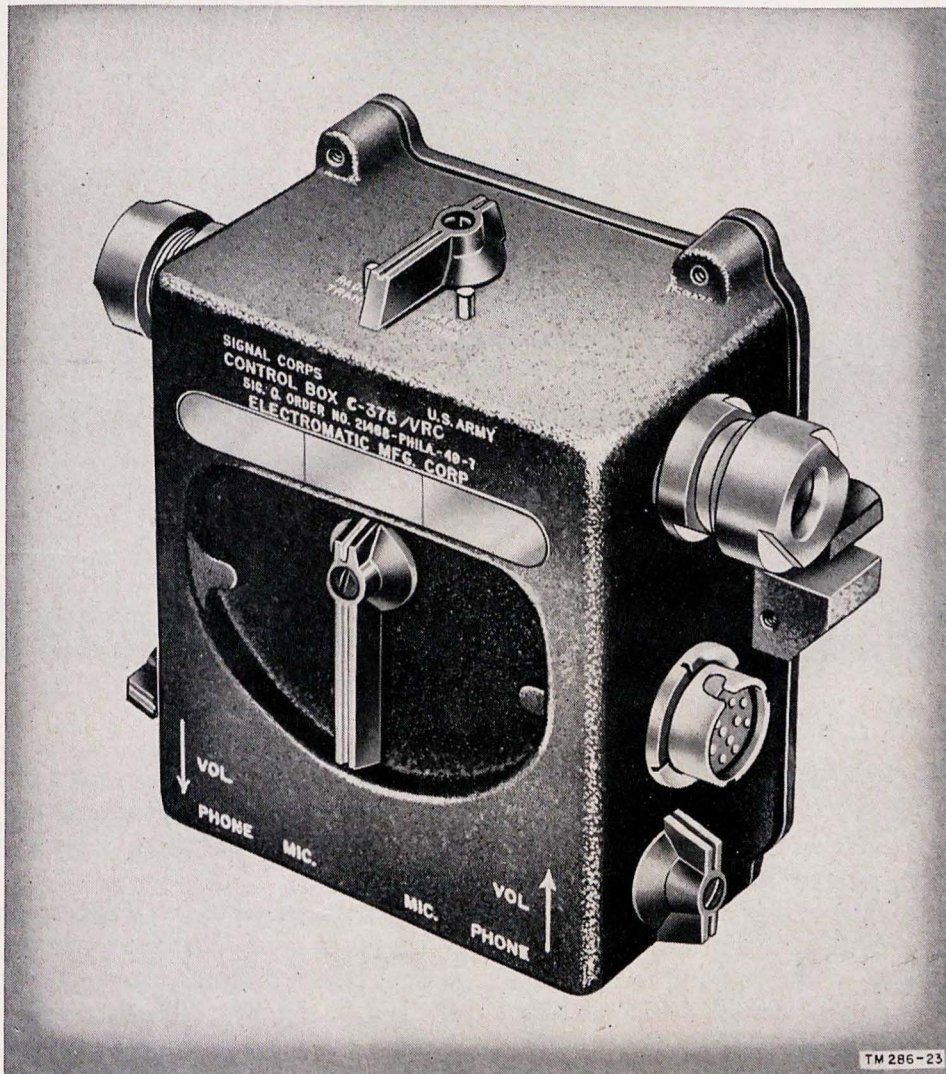

Figure 8. Control Box C-375/VRC.
14. Control Box C-375/VRC (fig. 8)
Special Purpose Cable WM-46/U. Cable entries are provided at either side of the control box (fig. 8). The cable connection extends the audio and control lines of the receiver-transmitter and interphone amplifier to the switches on the control box. The switches connect these lines to the audio receptacles on either side of the box and to the MIC and PHONE jacks on the bottom of the box (fig. 31). Suitable audio accessories can be connected for monitoring, interphone operation, or push-to-talk control of the radio sets.